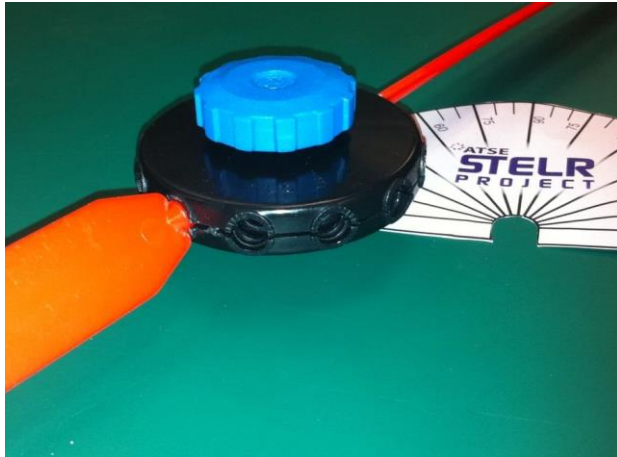

Figure 2. These blades have been set into the hub at the same angle (45°).
1. Make sure the two blades are tight in the hub of the turbine and are both at 45° to the face of the hub, like those in Figure 2 below.